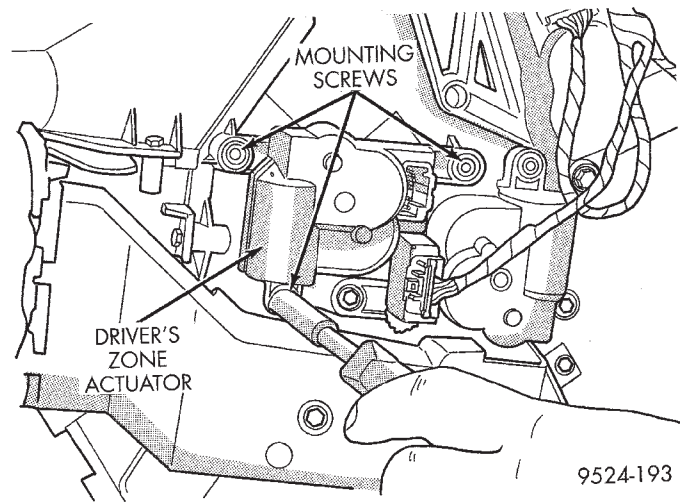

Fig. 14 Blend-Air Actuator
- (3) Remove blend-air actuator connector.
- (4) Remove blend-air actuator (Fig. 14).